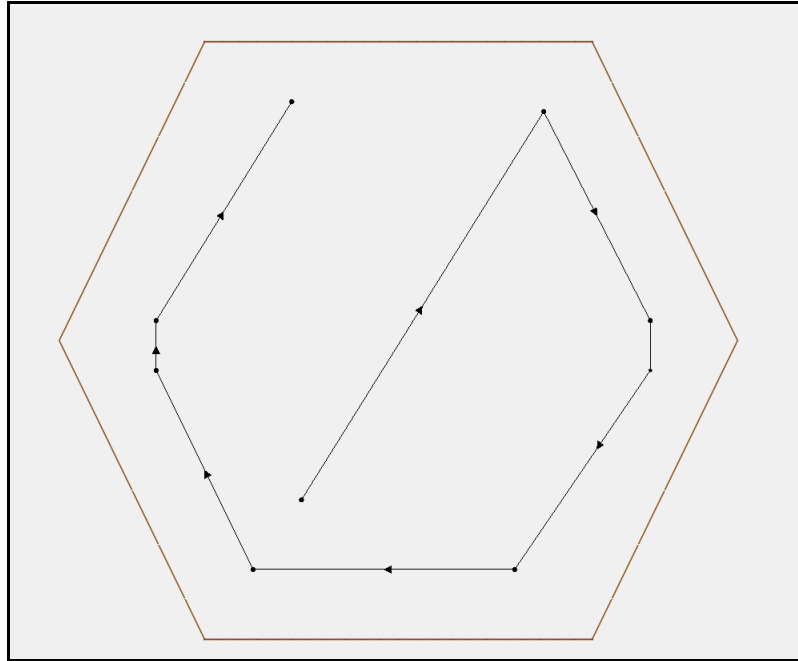

Figure 4 The full boat path
2. Using the **Create Feature Arc**  tool, add additional segments to the arc as shown in Figure 4.
Nodes are able to change the speed of the boat at that location. Vertices simply interpolate their speed based on the nodes before and after them. When finished, the boat path should look like Figure 4.